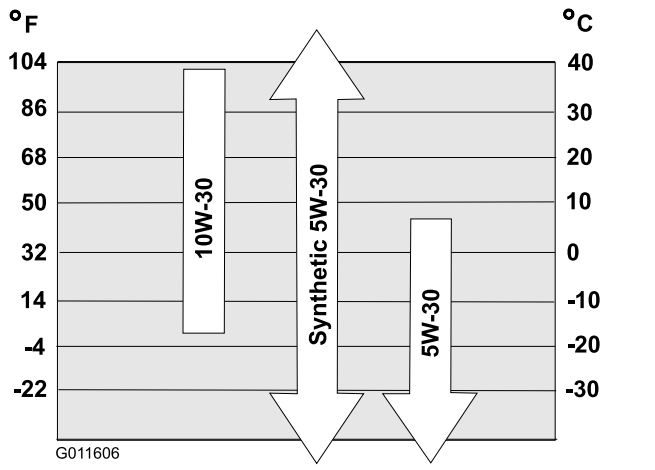

Figure 20
Oil viscosity	Refer to Figure 20.
6. Use Figure 20 to select the best oil viscosity for the outdoor temperature range expected: